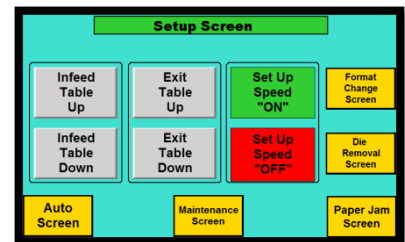

Figure 14
- a. **In-feed Table Up / Down Buttons:** You can also move the In-feed up or down manually. These buttons are located in the “Setup Screen”. See figure 14.
- b. **Exit Table Up / Down Buttons:** You can also move the Exit Table up or down manually. These buttons are located in the “Setup Screen”. See figure 14.